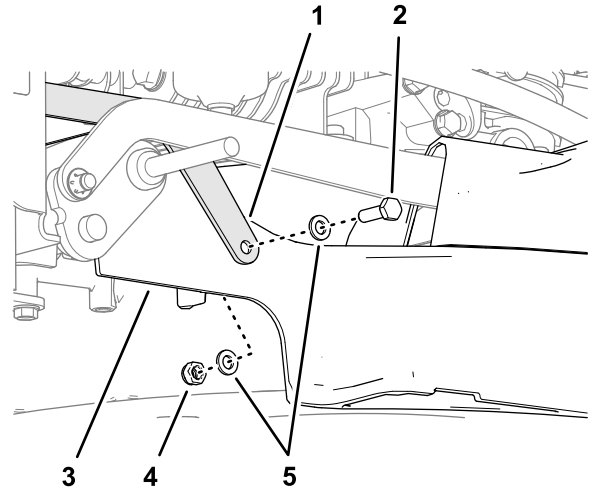

Figure 15
1. Align the hole in the brush strut with the hole in the deck (Figure 15).
2. Assemble the brush strut to the mower deck (Figure 15) with a cap screw (6 x 20 mm), 2 washers (6 mm), and a locknut (6 mm).